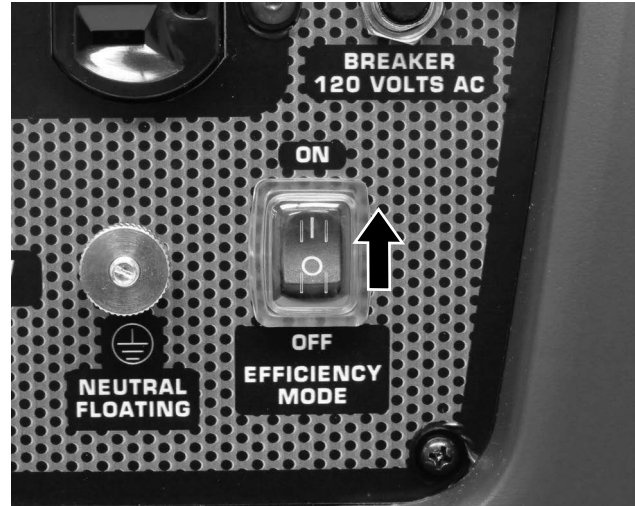

Figure 31 – Efficiency Mode Switch
1. To turn on the efficiency mode, press the switch to the **ON** position (see Figure 31).